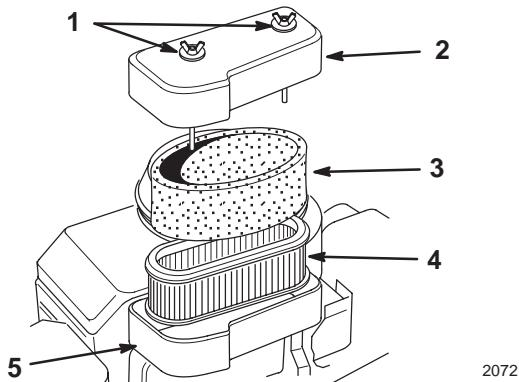

Figure 24
3. Clean around the air cleaner to prevent dirt from getting into the engine and causing damage. Unscrew the cover nuts and remove the air cleaner cover (Fig. 24).
4. Remove the air cleaner assembly (Fig. 24).
5. Carefully slide the foam element off the paper element (Fig. 24).
1. Carefully slide the foam element onto the paper air cleaner element (Fig. 24).
2. Place the air cleaner assembly onto the air cleaner base (Fig. 24).
3. Install the air cleaner cover and secure with cover nuts (Fig. 24).